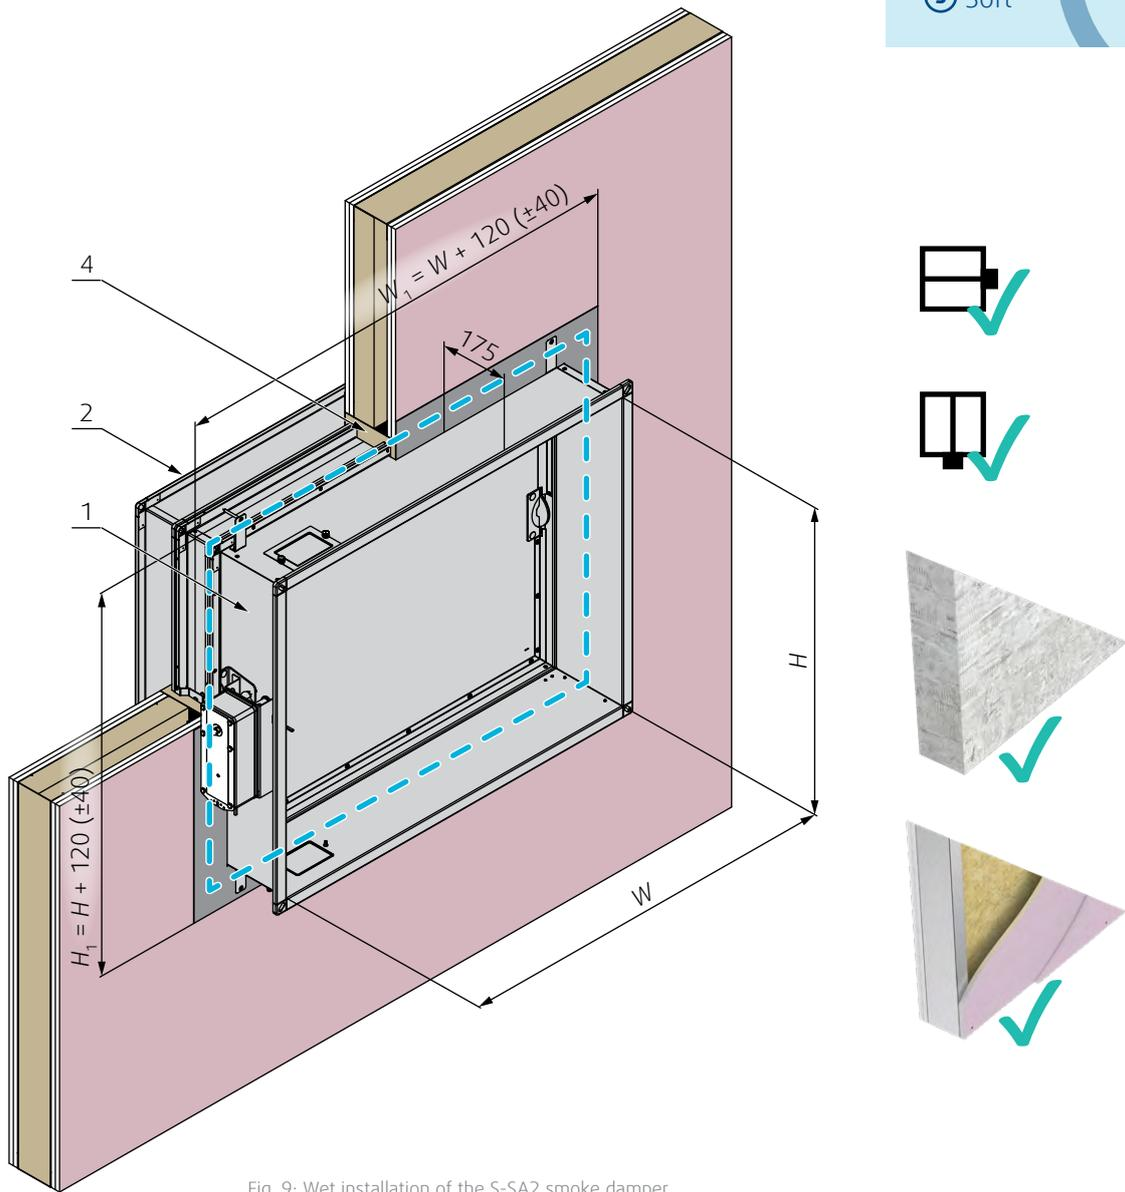

Fig. 9: Wet installation of the S-SA2 smoke damper
2. The opening dimensions are driven by the nominal dimensions of the damper with added clearance. The opening will be made with dimensions W_1 and H_1 (Fig. 9).
4. Apply the same fire resistive coating (5) onto the internal surface of the wall opening. Also apply the fire resistive coating to the external surface of the filling glued to the damper surface. Immediately after applying the fire resistive coating, place the damper into the wall opening. The damper blade must be located in the supporting structure. Then fix the damper using the bendable bracket.
5. After inserting the damper into the opening and fixing it using the bendable hangers and suitable screws (3; recommended screw diameter 5,5 - e.g. DIN7981), apply the same fire resistive coating (5), at least 2 mm thick and 100 mm wide, to the opening filling and wall edges evenly from both sides. Do not apply this layer in the place where the mechanism is located, inspection openings and manufacturer labels.